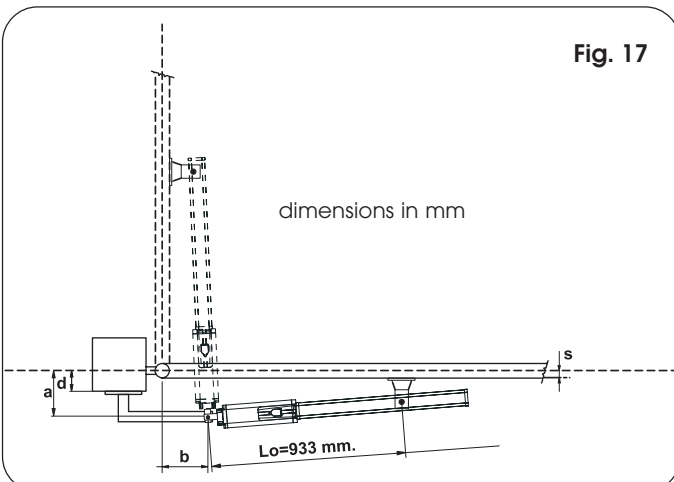

Fig. 17
9.1. OPENING TOWARD THE OUTSIDE, WITH OPERATOR INSTALLED INSIDE (Fig. 17)